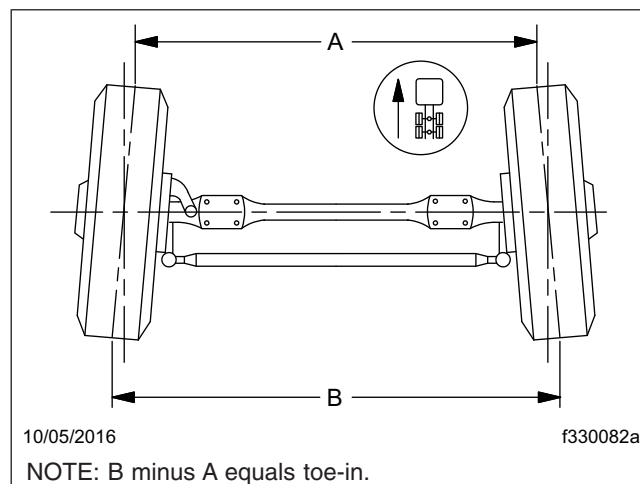

Fig. 6, Wheel Toe-In (overhead view)
6. Place a trammel bar at the rear of the front tires; locate the trammel pointers at spindle height, and adjust the pointers to line up with the scribe lines on the center ribs of the front tires. See **Fig. 6**. Lock in place. Check that the scale is set on zero.